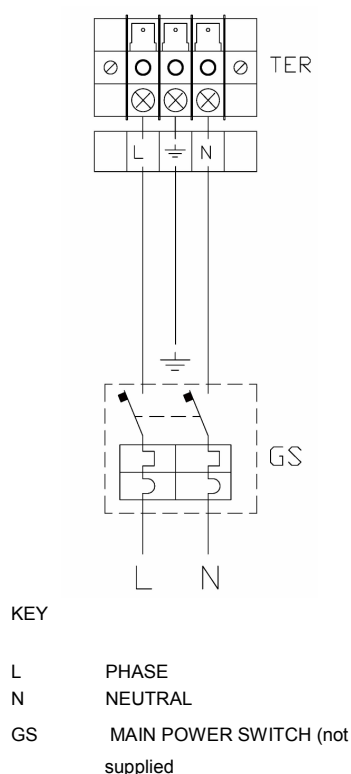

Figure 17 – Main power switch connection
2. Connect the ACF to the power supply line using the indicated cable and also install either a bipolar isolating switch with 2 5A T-type fuses or a 10A thermomagnetic switch near the cable (see detail GS on Figure 17).